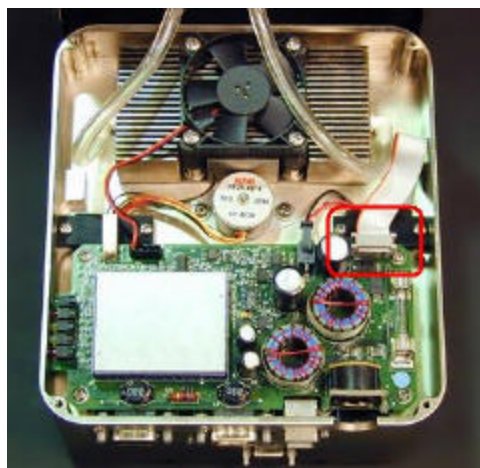

Figure 1A
3. Remove the ribbon cable from P2 in the upper right hand corner of the Digital Board as shown in the Figures 1A, 1B and 1C below. Tuck the cable out of the way to the right of the heat sink.